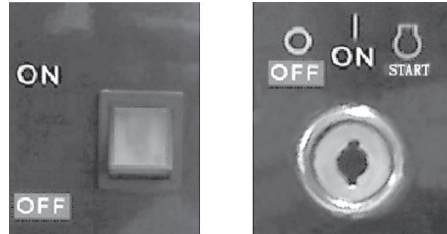

Fig. 7
4.5 Set the Ignition Switch to ON position for hand start models; Turn the key-switch to ON position for E-start units. (Fig. 7)